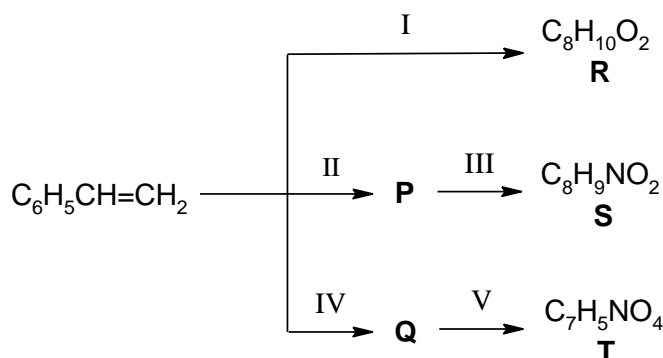

Fig. 3.1
- (b) Phenylethene, $\text{C}_6\text{H}_5\text{CH}=\text{CH}_2$, can be used to synthesise three different aromatic compounds **R**, **S** and **T** as shown in Fig. 3.1.